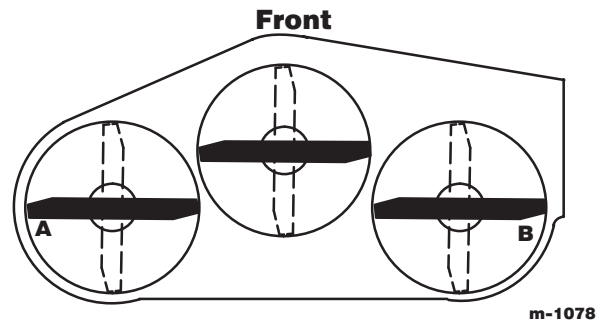
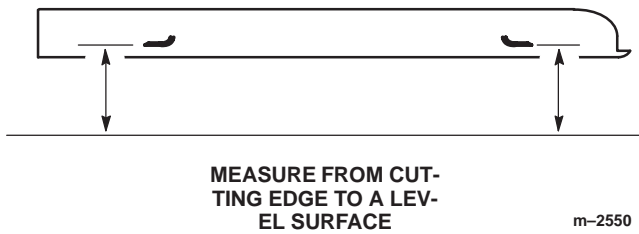

Figure 21
Figure 22
2. Position the blades side-to-side (Fig. 21). Measure at **A** and **B** locations (Fig. 21) from a level surface to the cutting edge of blades (Fig. 22).